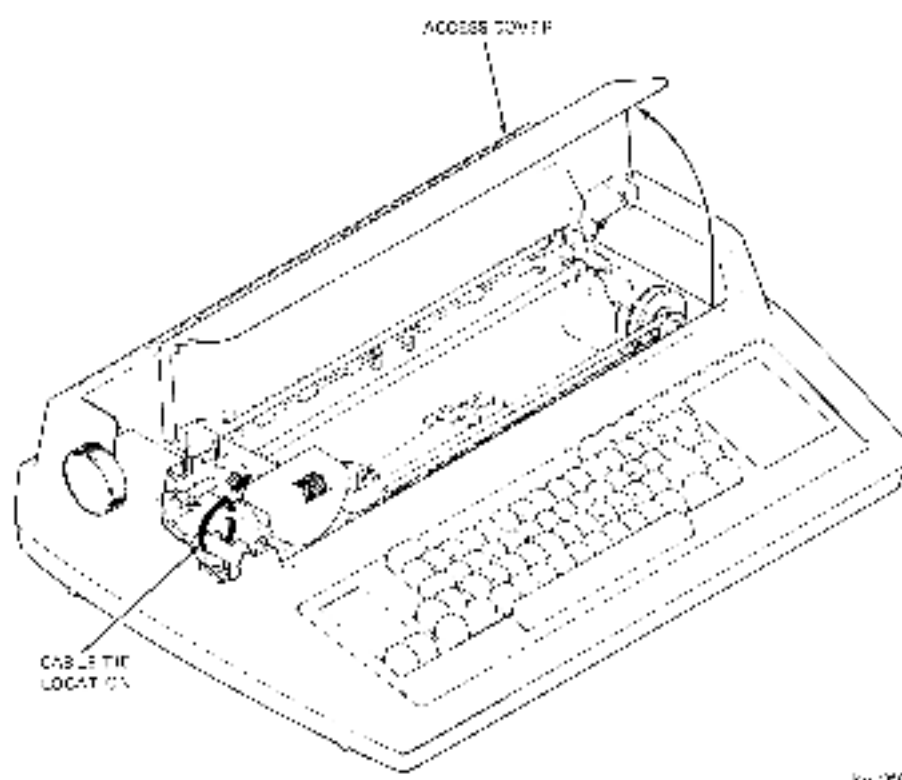

Figure 2-3 Cable Tie Location
7. Open the access cover. Clip and remove the nylon cable tie securing the printhead assembly (Figure 2-3). Close the access cover.
2. Secure the printhead assembly to the left side plate with a nylon cable tie to prevent movement while in transit (Figure 2-3).